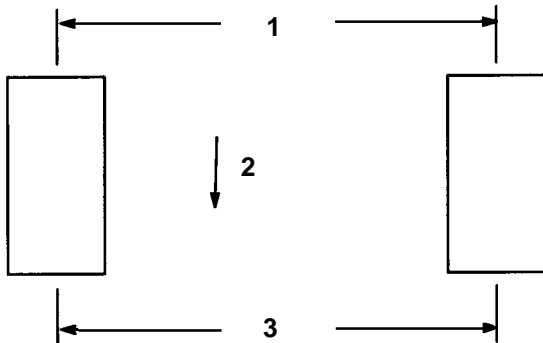

Figure 29
1. Measure the distance between both of the front tires at axle height (at the front and rear of the wheels) (Fig. 29). Front measurement must be equal to the rear measurement 3mm (1/8 in.).